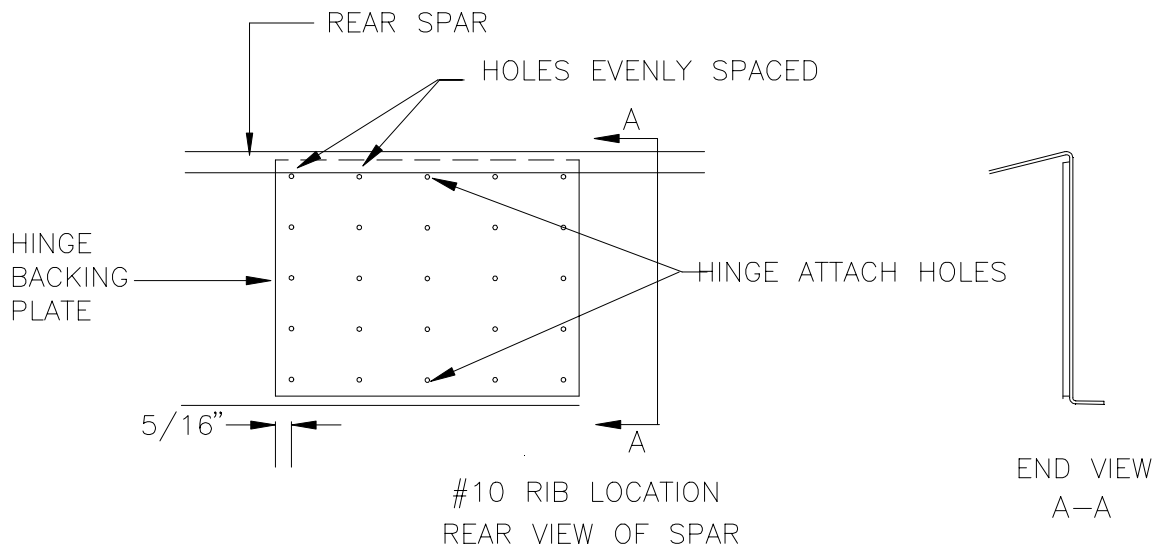

Figure 8.5.3
- 4) Drill 20 more #40 holes into the Backing Plate and Rear Spar as in Figure 8.5.3.